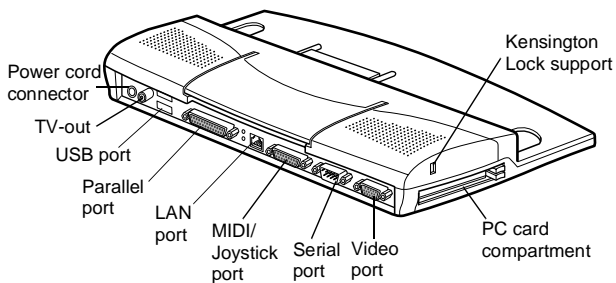

Figure 2. Back view of the Mini Dock
6. Connect peripheral devices to the Mini Dock according to Figure 2 on page 2.